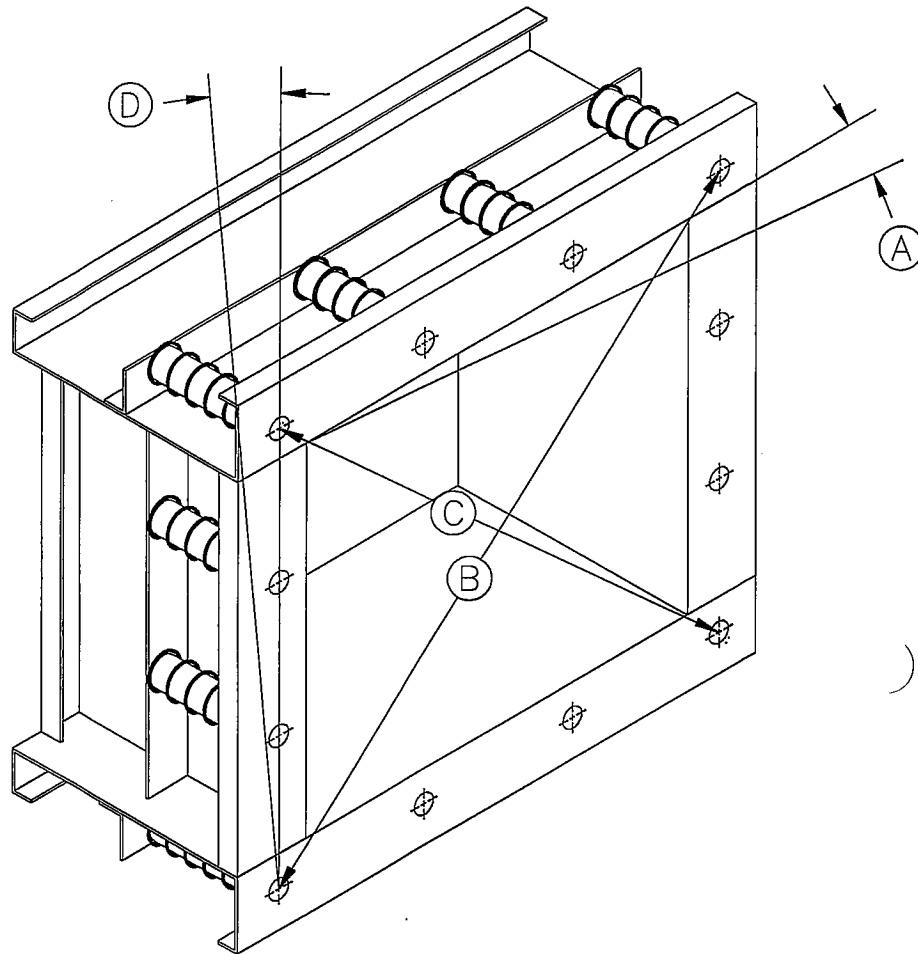

FIGURE 5
- 10) If the gate is installed with a flush bottom frame (see figure 5), you should conduct a sealing test before pouring the grout. If the gate has a frame embedded section, make sure the frame is square and level before pouring the grout.
- 2) The wall thimble should be even (see figure 5). The concrete around the wall thimble should be even and have a smooth surface.
- 9) If the gate is installed with a flush bottom frame (see figure 5), you should conduct a sealing test before pouring the grout.